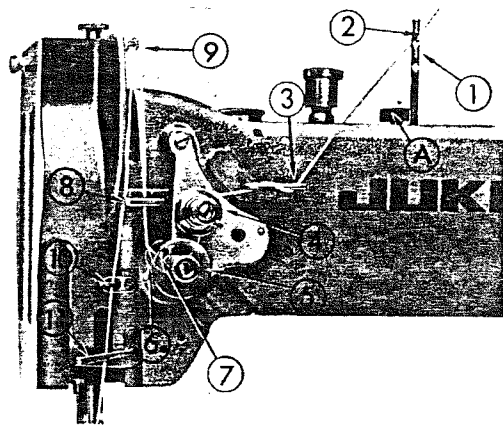

Fig. 10
The pressure of the foot presser is adjusted by the presser spring regulator (Fig. 10 ④) atop the arm. When the pressure is to be increased, turn the spring regulator to the right and to make it weaker, turn it to the left.